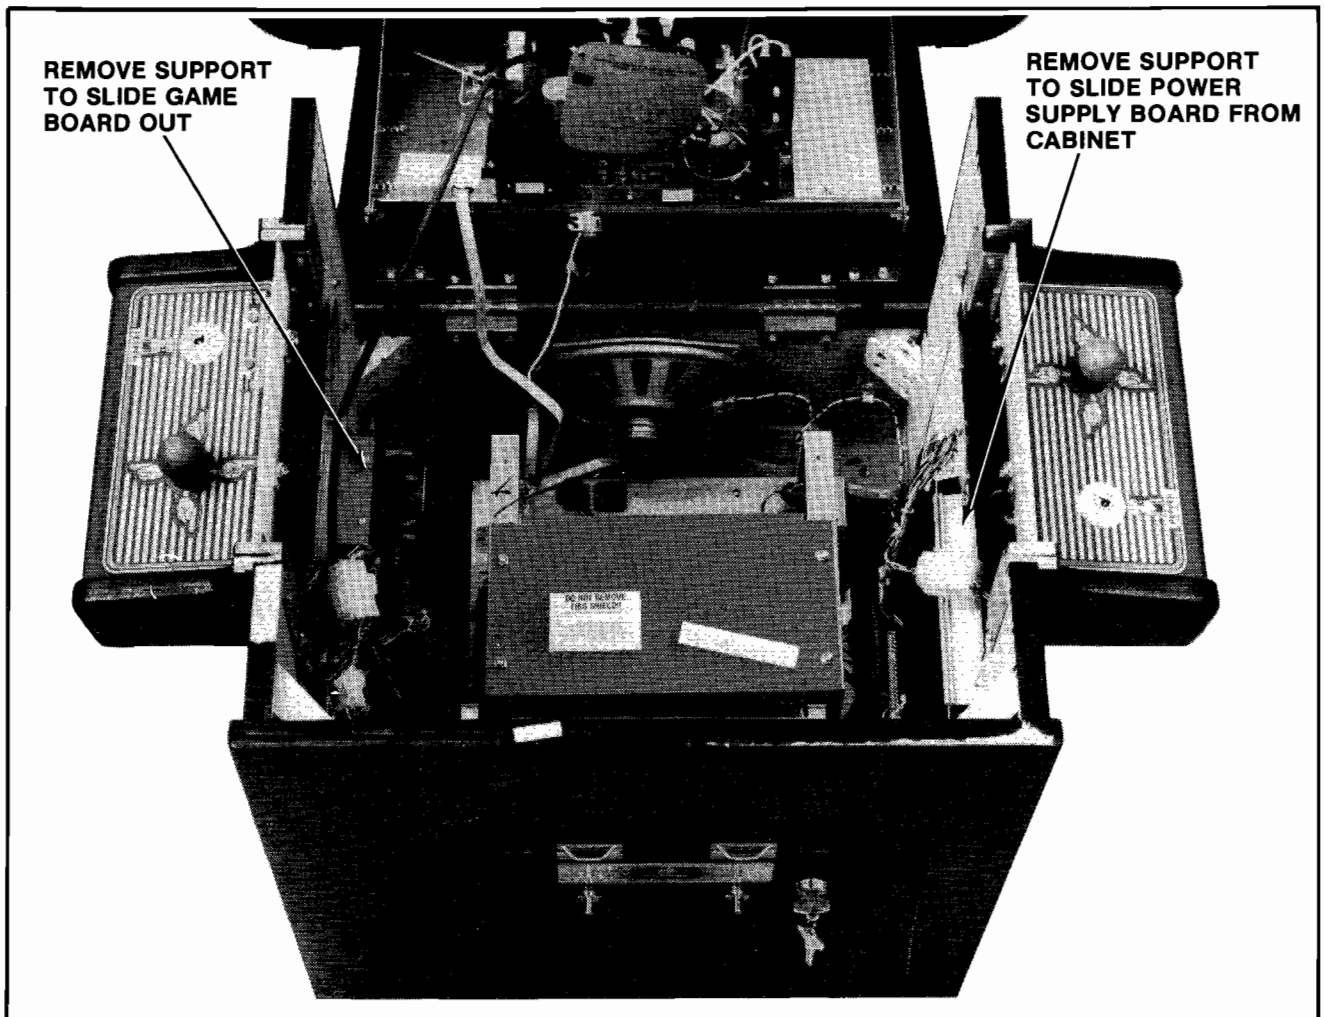

Figure 2-24 Removing P.C.B.'s - Cocktail
**2.8.3 COCKTAIL TABLE MODEL:** (See Figure 2-24)
- ❑ To remove the power supply board. See Figure 2-24.
- ❑ To remove the game and sound boards. See Figure 2-24.